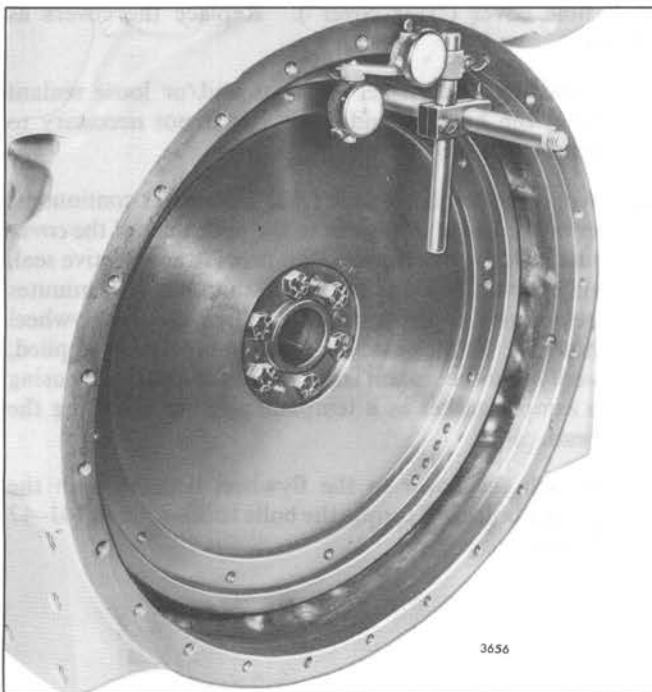

Fig. 6 – Checking Flywheel Housing Concentricity
- a. Refer to Fig. 6 and thread the base post J 9737-3 tightly into one of the tapped holes in the flywheel. Then, assemble the dial indicators on the base post with the attaching parts provided in the tool set.